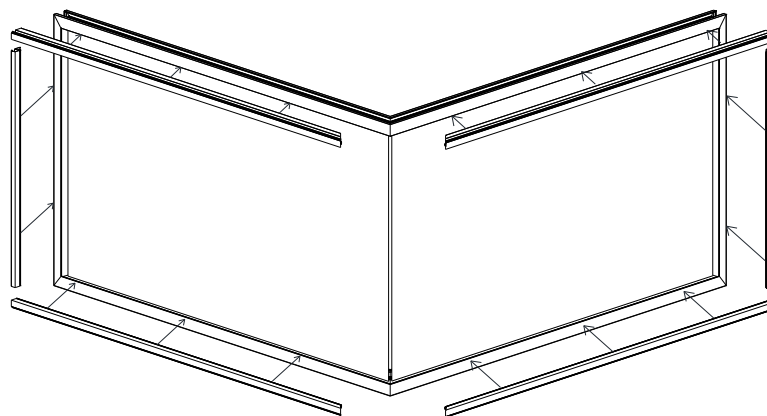

Figure 14:
- Align corner glass panels in frame leaving a 1/4" gap between glass for sealant (Figure 14).